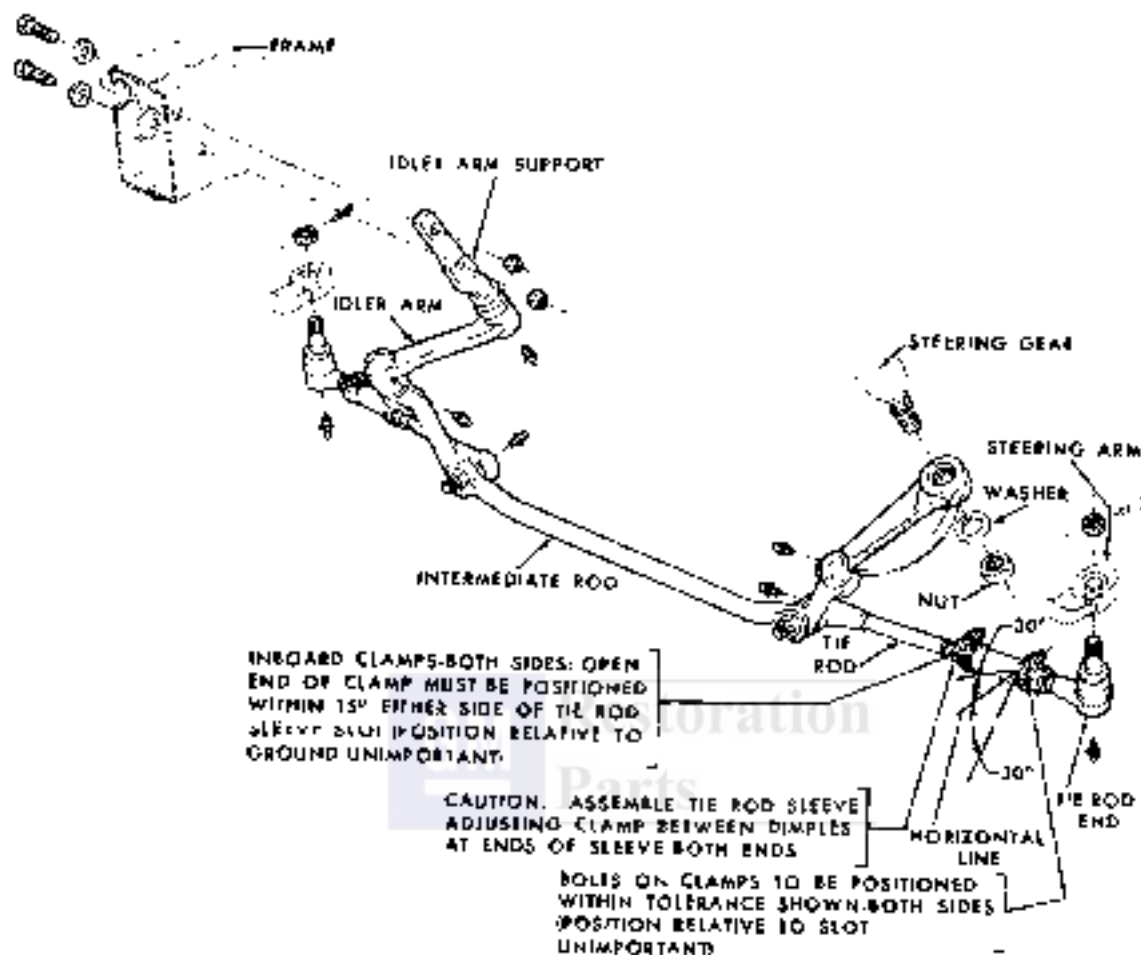

Fig. 9-36 Rear End Steering Linkage
When new tie rods or tie rod ends are installed it is necessary to check toe-in. Check clamp bolts on tie rod adjuster sleeve assembly for tightness (17 ft. lb. torque) and bolts are to rear. Assemble tie rod clamps as shown in Fig. 9-35 for Tempest and Pontiac, Fig. 9-36 for Firebird models.
1. Raise vehicle and disconnect steering connecting rod from pitman arm (Fig. 9-35 and Fig. 9-36), using tool J 5504-61.